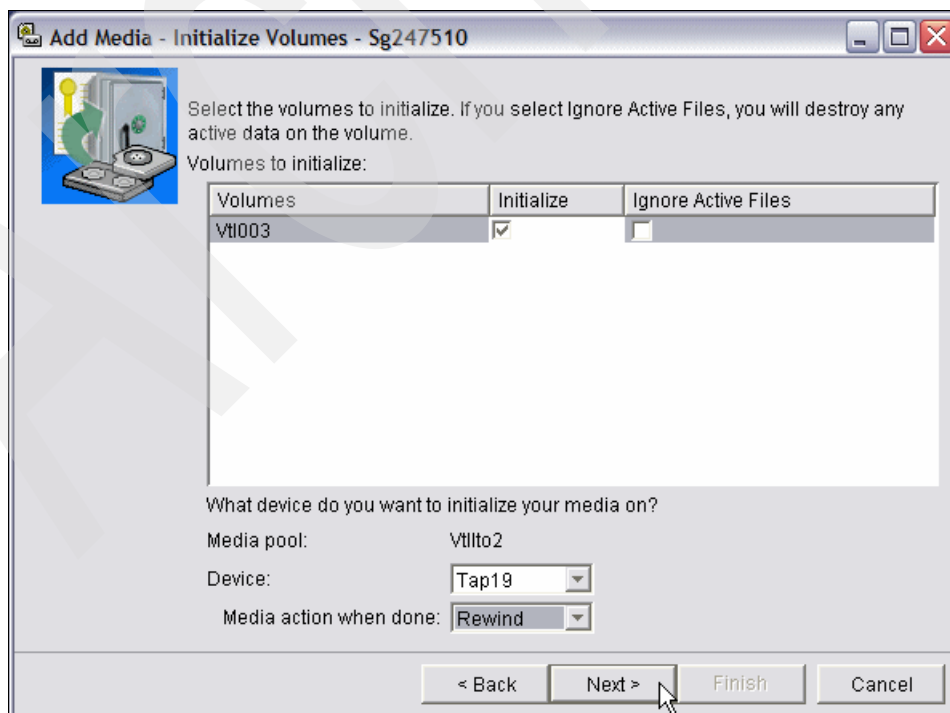

Figure 6-40 Add Media - Initialize Volumes
9. The window shown in Figure 6-40 opens. Select the check box under Initialize to specify that the volume being added also has to be initialized. Select a device if required. Click **Next**.